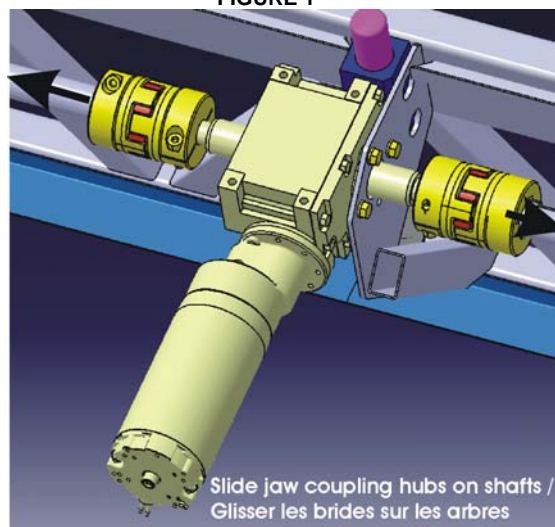

FIGURE 2
- b. Separate clamping hubs and slide onto the shafts, away from the gearbox (figure 2).